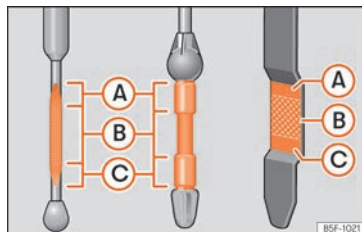

Fig. 304 Engine oil dipstick.
- Then pull it out once more and check the oil level » Fig. 304. Top up with engine oil if necessary.
If the oil level is above area » **Fig. 304 A**, do not start the engine. This could result in damage to the engine and catalytic converter. Contact a specialised workshop.
The oil level must never be above zone » **Fig. 304 A**. Otherwise oil can be drawn in through the crankcase breather and leak into the atmosphere via the exhaust system.